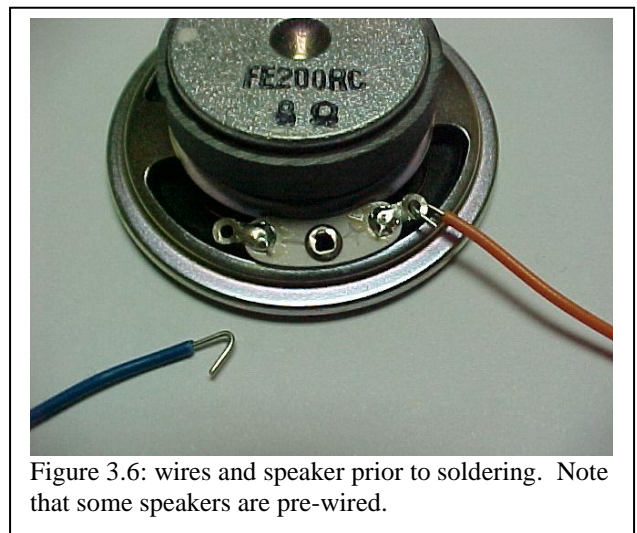

Figure 3.6: wires and speaker prior to soldering. Note that some speakers are pre-wired.
- Bend one end of wire (see Figure 3.6)